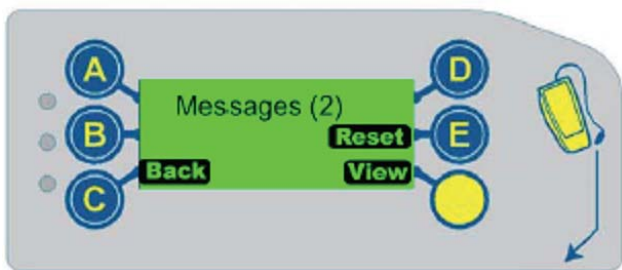

Fig.19
- Press the yellow mode button to access messages. See figure 19